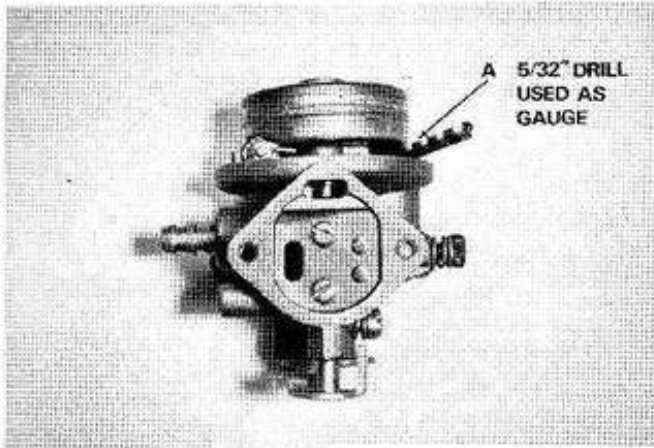

Figure 98. Float Adjustment.
- Hold the carburetor in an inverted position and check the float setting. (See Figure 98. — reference A.)